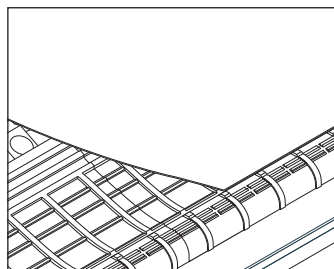

Fig. 5
- 7 Lay the underlay over the support tray stopped approx. 25mm from the top of the curved front edge of the felt support tray. (Fig 5). The underlay should not be left exposed to UV light.